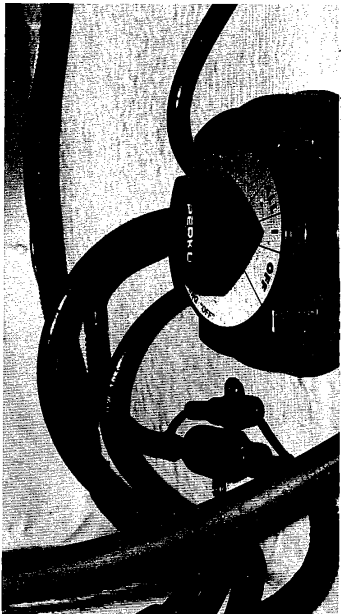

Figure 17
3. Put the battery main switch in the "On" position. See figure 17.